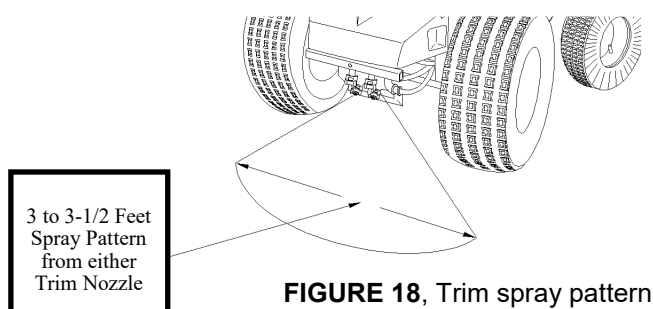

FIGURE 18, Trim spray pattern
- Spray for **15 SECONDS** until the spray pattern is visible on the surface. The spray pattern should resemble the **3-FOOT** spray pattern in **FIGURE 18**. (3-1/2-foot when using the 30 PSI unloader valve installed)